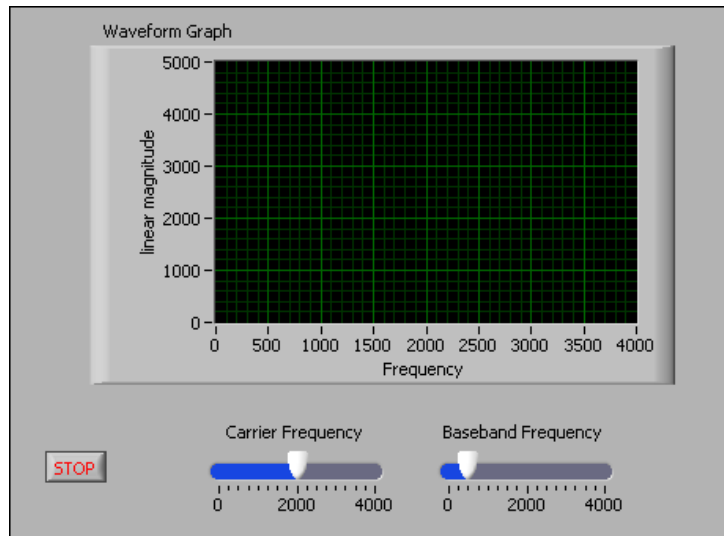

Figure 3. Looking at the Heterodyne VI Front Panel
1. Double-click **Heterodyne.vi** under the DSP target you are using in the **Project Explorer** window to open the front panel of the VI, shown in Figure 3. You create user interfaces for DSP VIs in the same way you create user interfaces in LabVIEW for Windows.